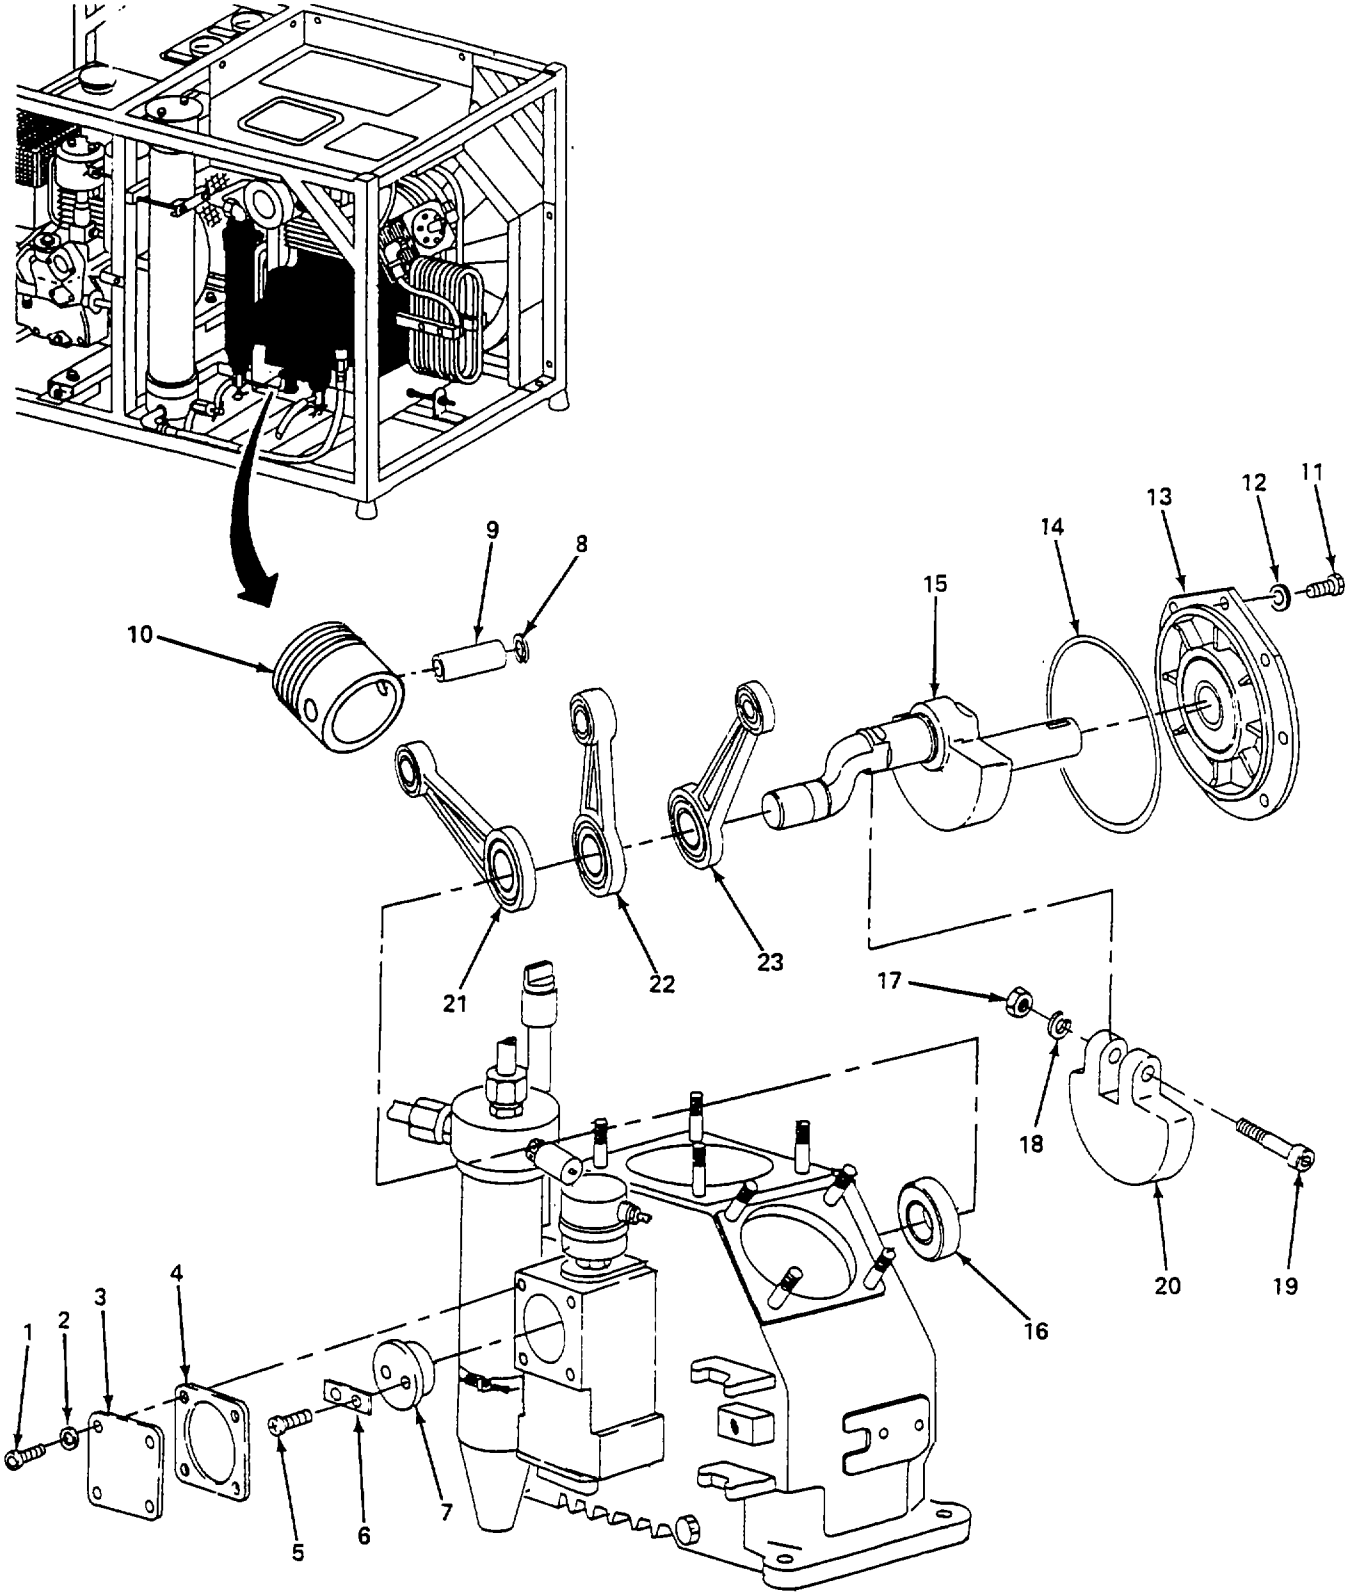

Figure 6-8. Third Stage Crosshead and Connecting Rod Assembly, Replace.
- a. *Replace*. (figure 6-8)
- (1) Remove four screws (1), washer (2), plate (3), and gasket (4). Discard gasket (4).
- (2) Remove two screws (5), plate (6), and oil pump cam (7).
- (3) Remove two retaining rings (8), wrist pin (9), and crosshead (10). Discard retaining rings (8).
- (4) Remove first stage piston assembly (para. 6-9).